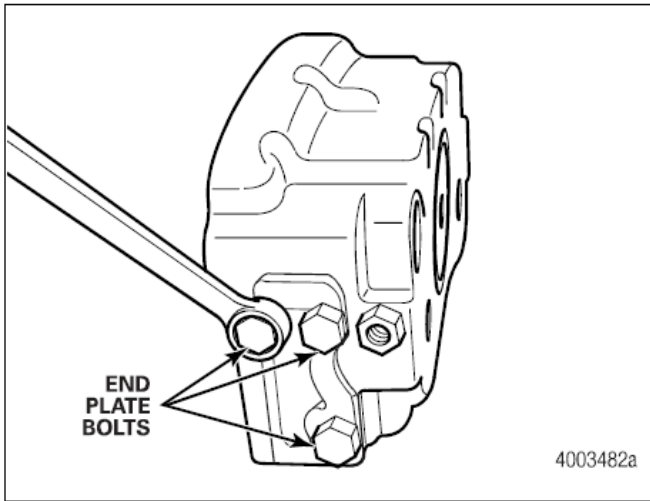

Figure 3.3
- Separate the two lining end plates from the caliper housing half by removing the six bolts, three bolts from each end plate. Figure 3.3.